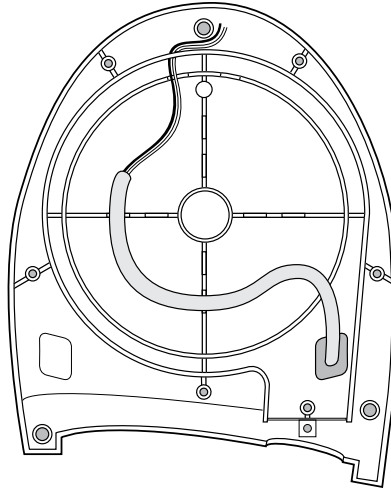

Figure 13. Power cord configuration in the warming unit case.
10. Route the new power cord through the enclosure hole and around the case as shown. Make sure the cord is held firmly by the notches in the case. Thread the crimped black and white wires through the case opening as shown in Figure 13.